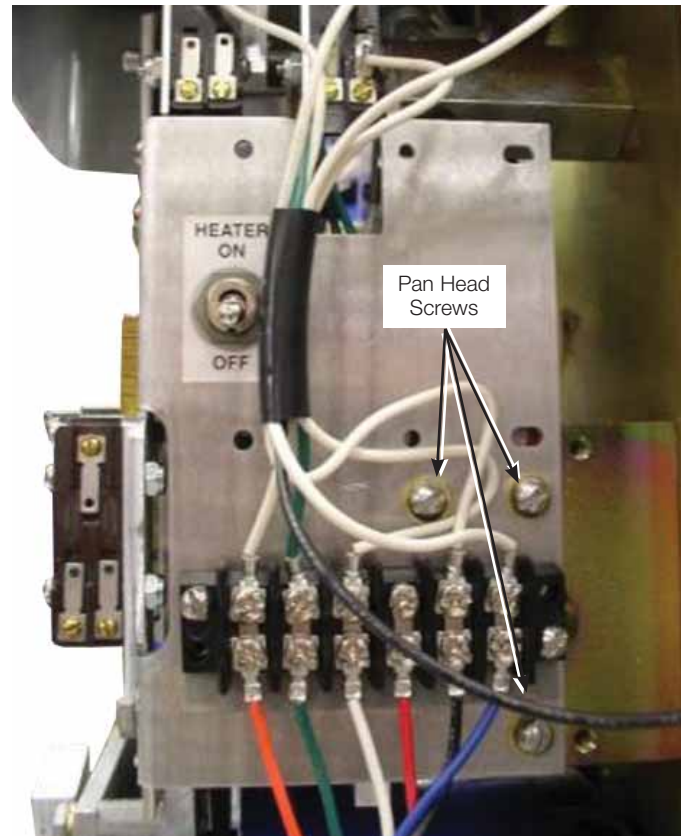

Figure 29.
- e. Remove the three pan head screws securing the microswitch mounting plate. Do not disconnect wiring. Refer to Figure 29.